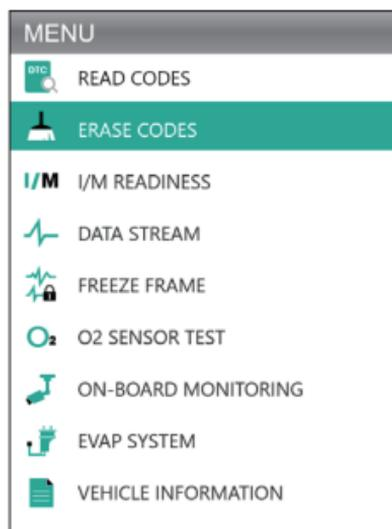

Figure 3.3.1
1. Select the Erase Codes Icon (See Figure 3.3.1), and press [OK]